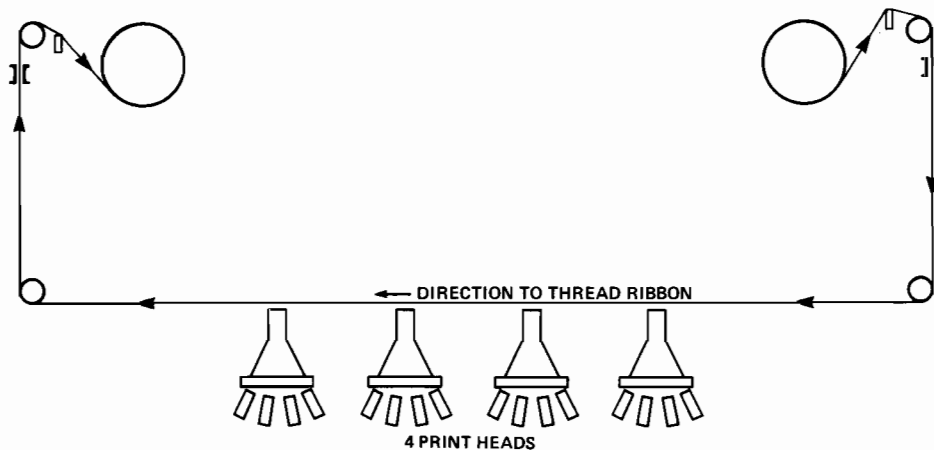

Figure 1.4. Ribbon Feed Mechanism
3. Compare the Ribbon Mechanism with that in the diagram (Figure 1.4) to find the parts needed and follow the path of the ribbon in the mechanism.